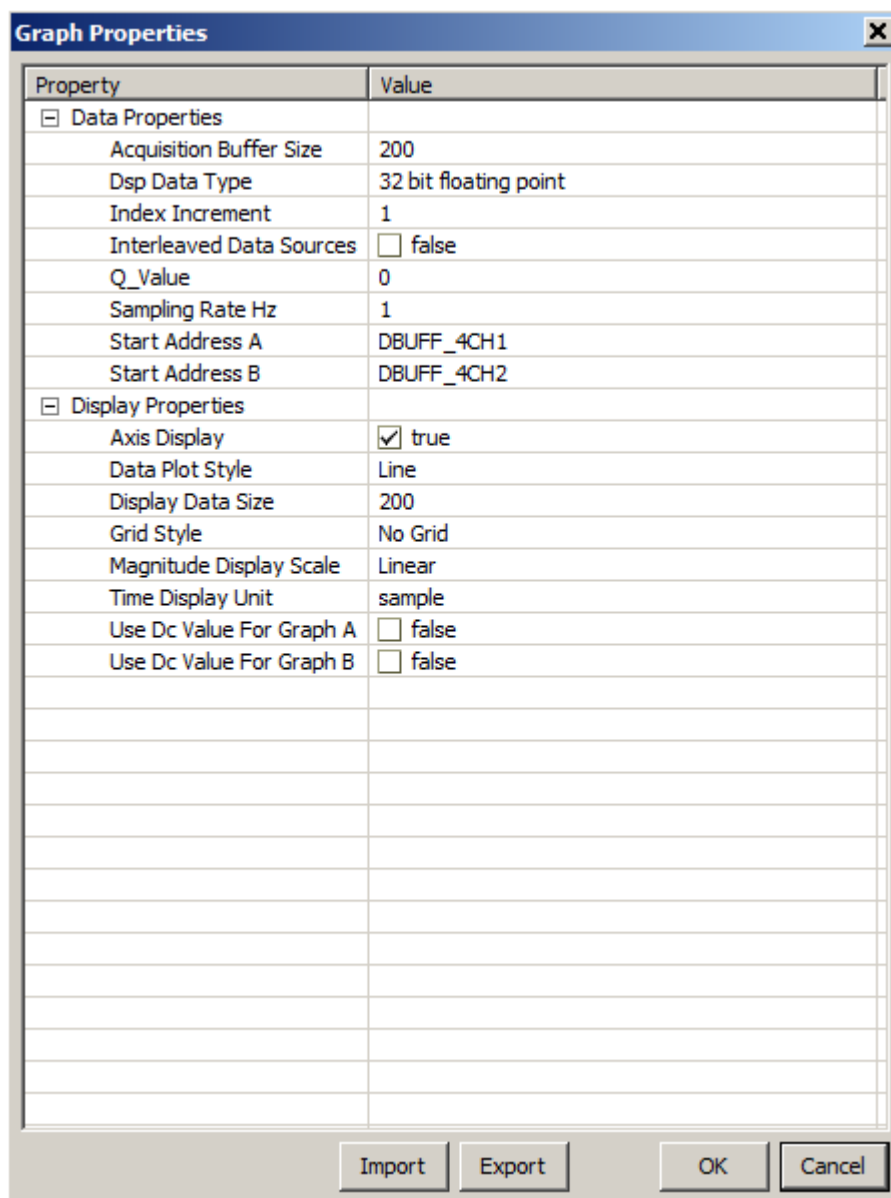

Figure 4-7. Graph Window Settings
The datalog buffers point to different system variables depending on the build level. The buffers let you inspect the variables and judge the performance of the system. Figure 4-7 shows open and setup time graph windows to plot the data log buffers.
- (f) Select *Graph1.graphProp*. (The Graph Properties window should look like Figure 4-7.)